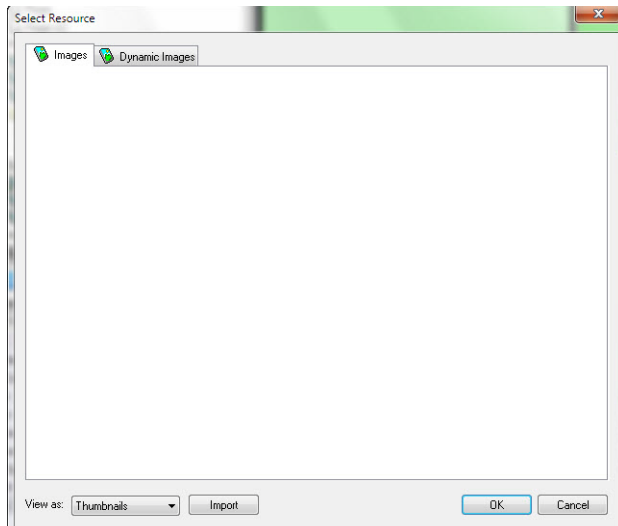

FIG. 154 Edit Dynamic Image window
3. In the *Select Resource* window (FIG. 154), add a new resource. In the example.